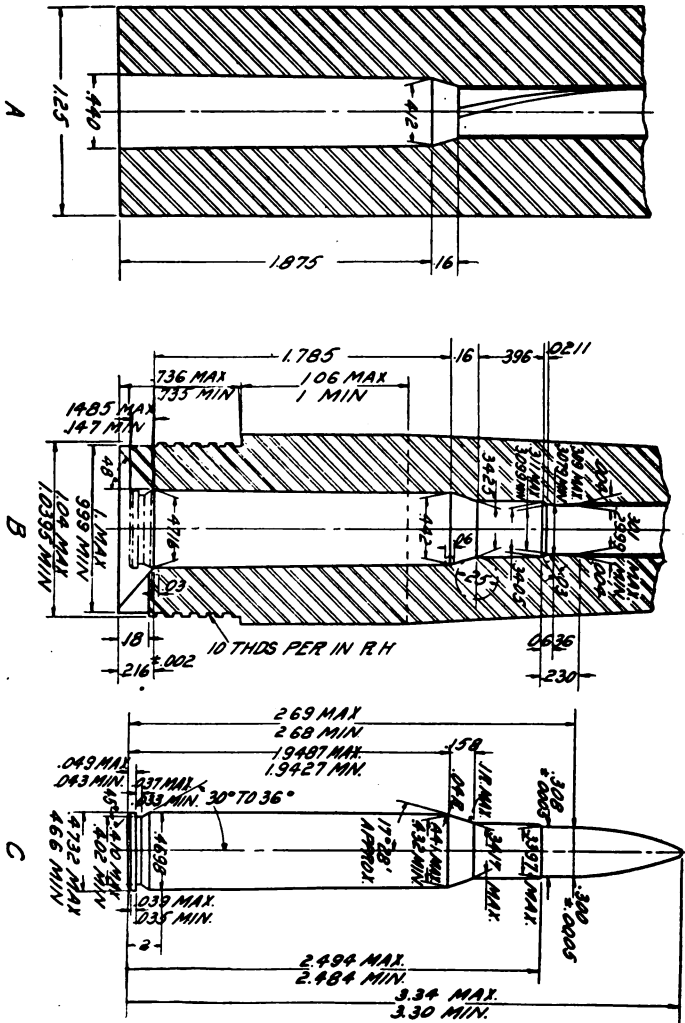

FIGURE 10.
set up for inside boring. Start boring inside the bore at the chamber end, boring out the portion of the chamber into which the body of the case fits, but boring in only to a point about $\frac{1}{8}$ -inch short of where the shoulder of the finished chamber will be, and about .03-inch smaller in diameter than the finished chamber at all points. (See Fig. 10-A.) Set the tool to bore at the same angle as the angle on the cartridge case. (This is the angle which makes the case larger in diameter at the head than down at the shoulder; in other words, the taper to the body of the case which permits of easy extraction.) This operation requires a great deal of care, and the bored-out portion must be absolutely true with the axis of the bore. It requires skill to do it correctly. If the amateur has not the necessary skill he is very liable to spoil the chamber at the start, and it is better to call in a first-class toolmaker or master machinist the first time or two and watch him do the job. Skill will come with a little practice and a knowledge of just how to set the work and what to do.
We are now ready to proceed with the chambering reamers. There are usually three reamers: the roughing reamer, the finishing reamer, and the burnishing reamer; used in the order named. The making and grinding of reamers requires high mechanical skill, and a long apprenticeship to learn it. If the amateur has not this skill he must depend upon a good toolmaker to make them. Any first class toolmaker, accustomed to make reamers, can make them correctly if he be shown this chapter, the sketches that accompany it, and be given a sample cartridge for which the chamber is to be cut. The same relative tolerances and clearances between cartridge and chamber should be maintained as is shown in Fig. 10.
Figure 10 shows (A) the body of the chamber bored out ready for the reamers. B is the shape and dimensions of a standard chamber for the .30 calibre Model 1906 cartridge. The tolerances are those prescribed for quantity production, but it is best to cut to the minimum figures. C is the outside dimension of a .30 calibre Model cartridge for which chamber B is cut. In making chambers for other cartridges of similar type it would be well to preserve the same relationship between the size and shape of the chamber and the size and shape of the cartridge.